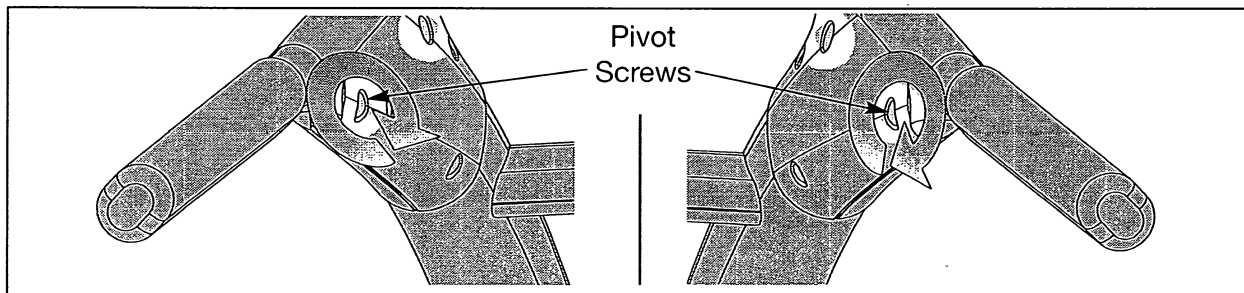

Figure 8
- B. Using the hex key provided, tighten the two pivot screws on the handrail. See Figure 8.